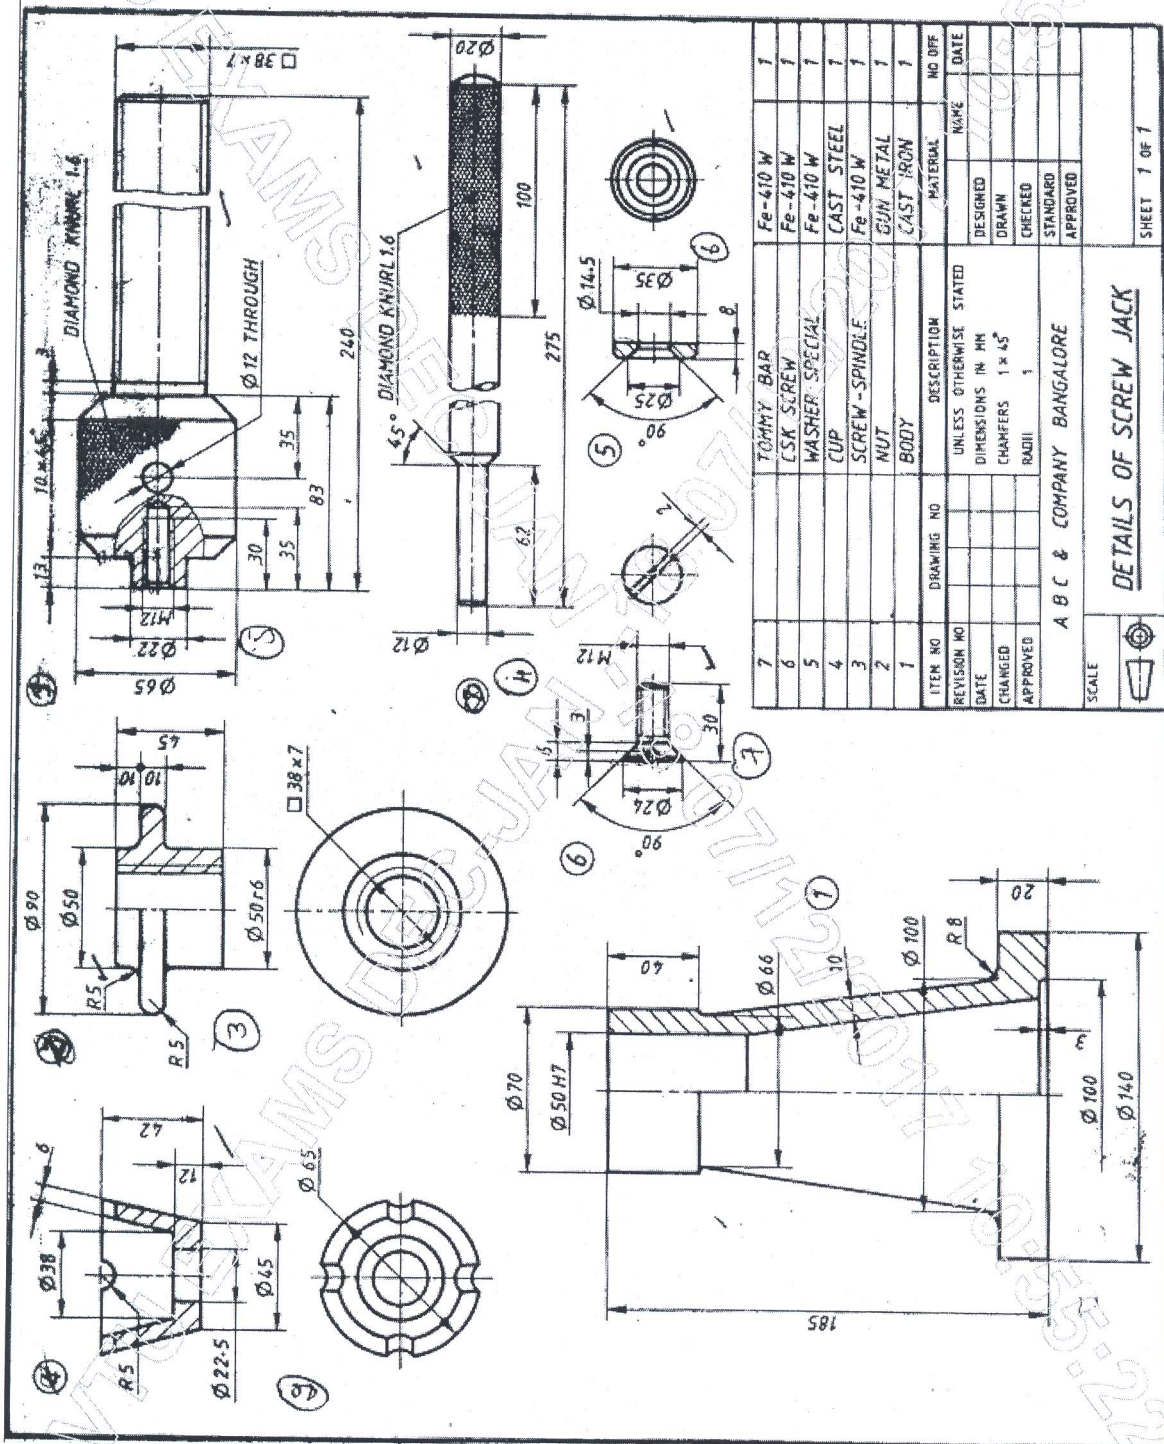

Figure. 2 – SCREW JACK
- Q.No.6** Details of SCREW JACK is shown in following Figure 2. Assemble the parts and draw the following views. **(50 Marks)**